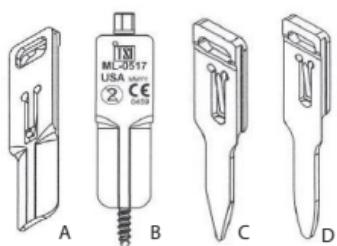

Figure 15
- Shims may be used to help minimize muscle creep or to anchor the retractor (Figure 15):
- Anchoring: Shim B, C, or D from Figure 15
- Blade Extension: Shim A from Figure 15 (use with or without K-wire)